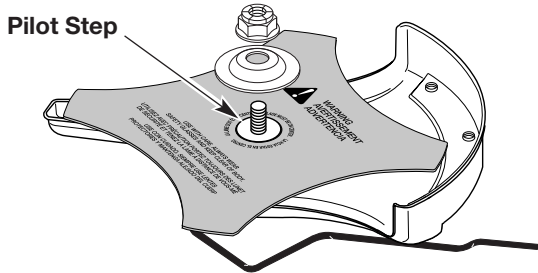

Fig. 11
- Make sure that the cutting blade is centered on the pilot step and sitting flat against the output shaft bushing (Fig. 11).